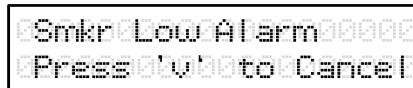

Figure 23. The LCD display when **Smkr Lo Alarm** is triggered.
**Note 2. Smkr Lo Alarm:** This is the low temperature alarm for cabinet temperature probe (Probe 1). When the cabinet probe reading is lower than **Smkr Lo Alarm**, the buzzer on the controller will go off, and the LCD display will flash between the normal display and the alarm display showing in Figure 23. The alarm has 1 degree hysteresis. The user can mute the buzzer by pressing either the Up or Down key. Temperature must move out of the hysteresis zone to activate the alarm again. For